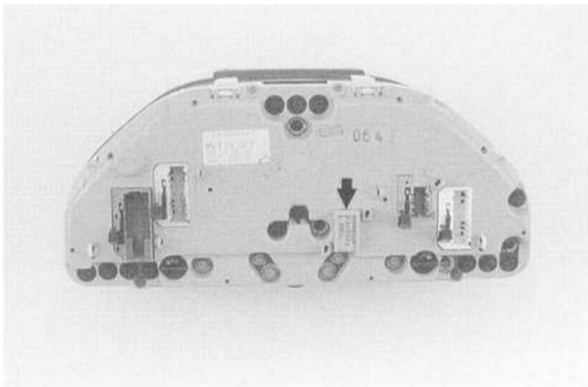

Fig. 8. Coding plug locking frame on rear of instrument cluster (arrow).
3. Use a knife to cut out coding plug locking frame on rear of instrument cluster. See Fig. 8.